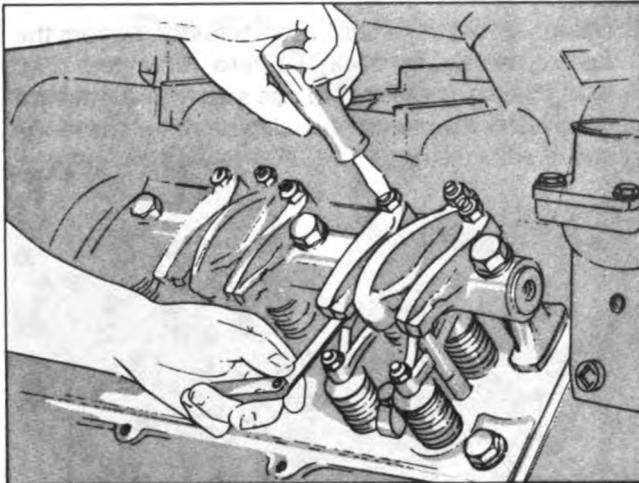

Fig. 2-34. (OM1040L). Adjusting valves
1. Loosen the locknut and back off the adjusting screw. Insert a feeler gauge between the rocker lever and the top of the crosshead. Valve clearances are shown in Table 2-9. Turn the screw down until the lever just touches the gauge and lock the adjusting screw in this position with the locknut. Fig. 2-34. Torque the locknut to the values indicated in Table 2-7; note Step 2 under "Injector Plunger Adjustment".